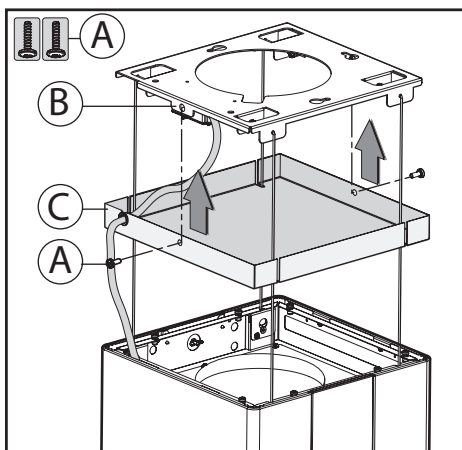

Fig.7
- Take the aesthetic frame **C** and using the 2 screws **A** fasten it to the structure **B** fig. 7.